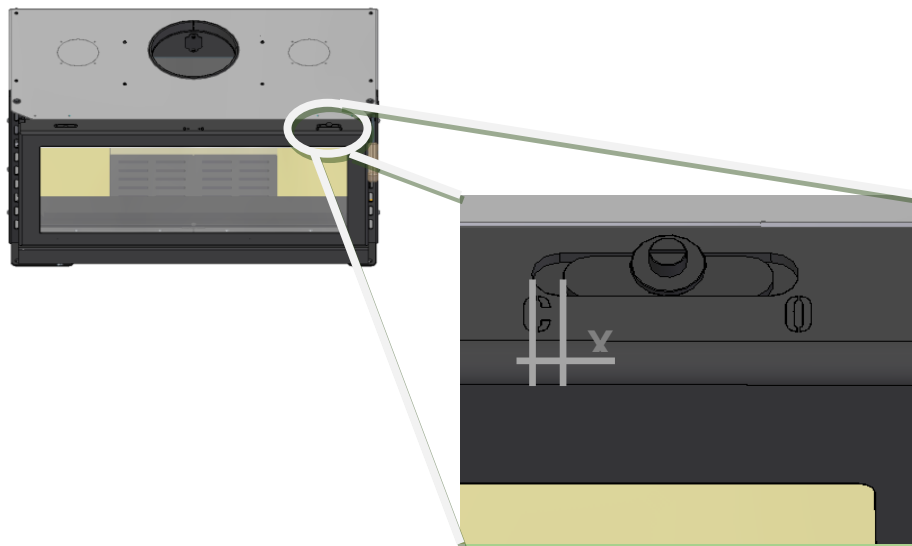

Figure 32 – Secondary air regulation in the door
7. To obtain a good relation of equipment performance versus firewood consumption, it is necessary that the door regulator is in the position indicated in the following table, see Figure 32.